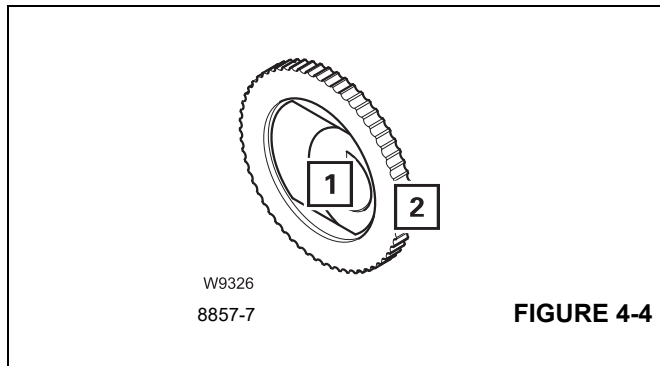

FIGURE 4-4
| To open the vent:       | Press the fins (1), (Figure 4-4) down and set them lengthwise |